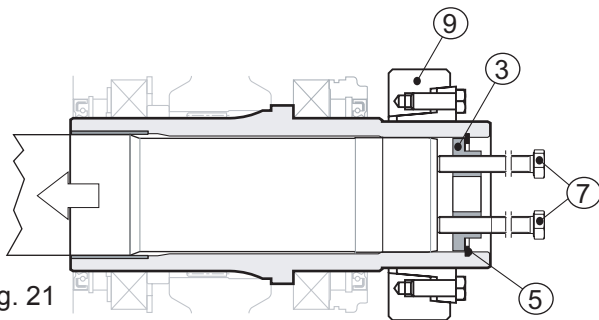

fig. 21
Insert 2 bolts (pos. 7) into the two threaded holes on the backplate (pos. 3) and screw them until they touch the machine shaft (pos. 1). Now give them alternately one full turn each (see Fig. 21).